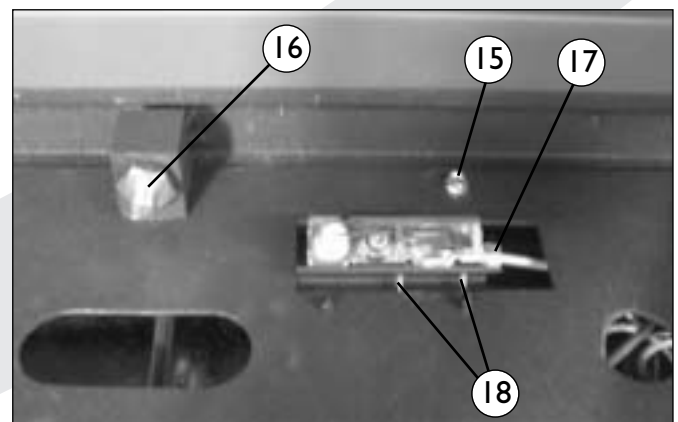

fig. 18
- Remove the burner mounting plate by unscrewing the self-tapping screws (15), (fig. 18).
2. **Main burner jet (fig.18)**
3. **Oxypilot (fig.18)**
4. **Fine adjustment jet (fig.18)**